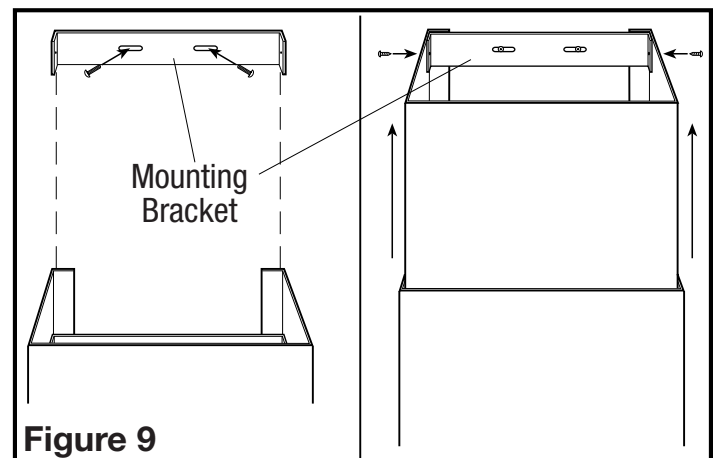

Figure 9
4. To install the upper section, mark the location of the included horizontal mounting bracket using the bracket as a template. Make sure the bracket is level and in line with the bottom section. The height will be dependent on your installation requirements. Make sure the slots in the side of the chimney will match the holes in the mounting bracket. If installing onto drywall, drill holes into wall using a 3/16" drill bit. Install wall anchors into the drilled holes (one for each hole). Secure bracket into place with (2) provided #6 x 1" screws. If installing into other material (brick, cement, plaster, etc.) choose an appropriate fastener capable of supporting the weight of the chimney (**Figure 9**).
5. Raise top chimney in place over horizontal mounting bracket and secure in place with the two included #6 x 3/8" screws (Figure 9).